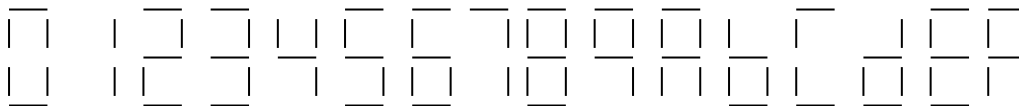

Figure 3.i: Hexadecimal characters on a 7-segment display
**Requirements:** Program one of the Engineering 163 CPLD boards to act as a seven-segment decoder for its on-board display. (Please see the Appendix section 10 and subsections of lab 5 for information on this board and for notes on the programming procedure for the XC9572XL on the board.) The resulting characters should have unique proper forms for all 16 possible inputs as shown in Fig. 3.i. Using the discrete parts from your kit, wire your 8-bit DIP switch so that the upper and lower sets of four switches control the left and right hexadecimal character of the on-board display. Use pull-up resistors as appropriate. (You may NOT use pull-downs!) Arrange a circuit with a toggle switch such that in one position of the toggle switch the display shows the two numbers set on the DIP-switch with no flicker in either digit. The display should update immediately when the DIP-switch setting changes. When the toggle switch is in the other position, the display shall show “A” on the left digit and the right digit shall be off entirely. I realize that in principle **this multiplexing could be done in the CPLD but that is not allowed** for this lab, which aims to show you how bus multiplexing is customarily done. The only connections to the user cable of the CPLD board are to the two cathodes, the four data lines, and two power connections. If you need more pull-up resistors than are available in your kit, you can get those in the lab.